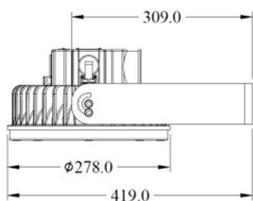

Figure 1
- ☞ Position the bracket holders and fix it by means of the provided M8 screws, 24.5 kgf-cm. (Figures 1 and 3)